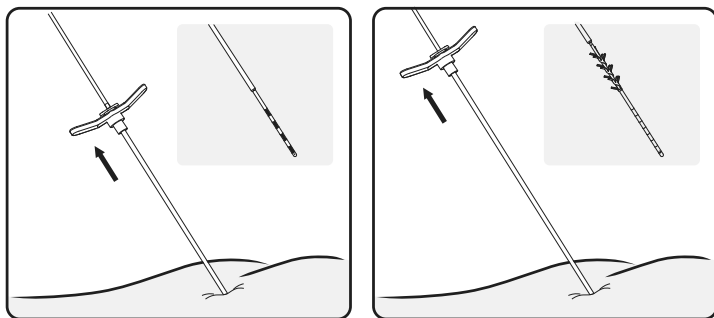

Figure 16. Grasp the tined lead to hold it in place. Withdraw the introducer sheath and lead stylet. Tines are deployed as the sheath is removed.
12. When the tined lead is in its final location, remove the tined lead stimulation cable then carefully withdraw the introducer sheath and lead stylet under fluoroscopic guidance while holding the tined lead in place (**Figure 16**).